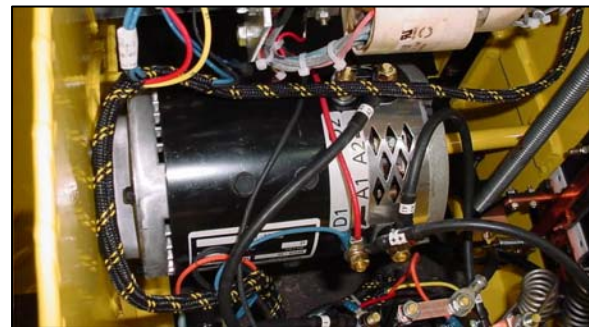

Figure 4.5.1
To remove the drive motor (Figure 4.5.1):
- Place the motor in the frame with the wire terminals as shown in Figure 4.5.1.